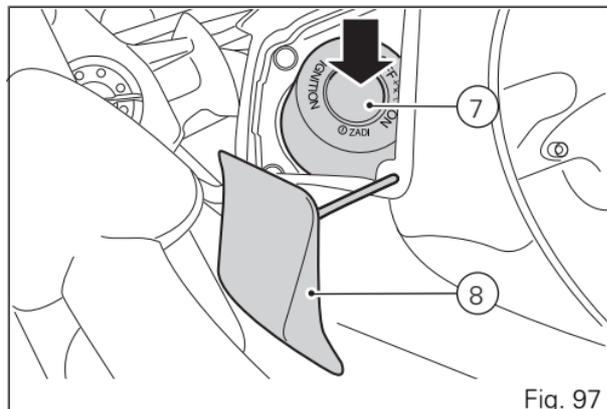

Fig. 97
The “Hands free” lock (1) is located on the front of the tank. The door must be removed to access it (8, Fig. 97).